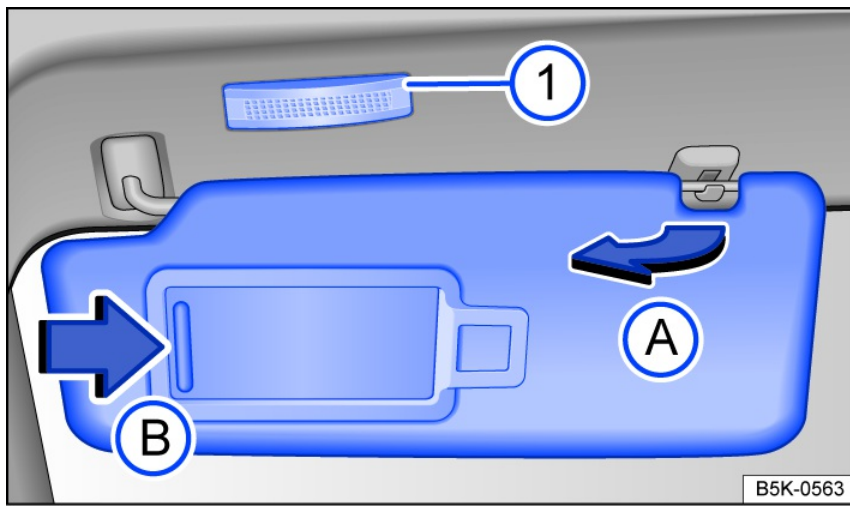

Fig. 87 In the front of the headliner: sun visor.
- Remove from the holder and tilt toward the door *fig. 87* **A**.
When the sun visor is folded down, there is a vanity mirror located behind a cover. The lights *fig. 87* **1** turn on when the cover *fig. 87* **B** slides open.